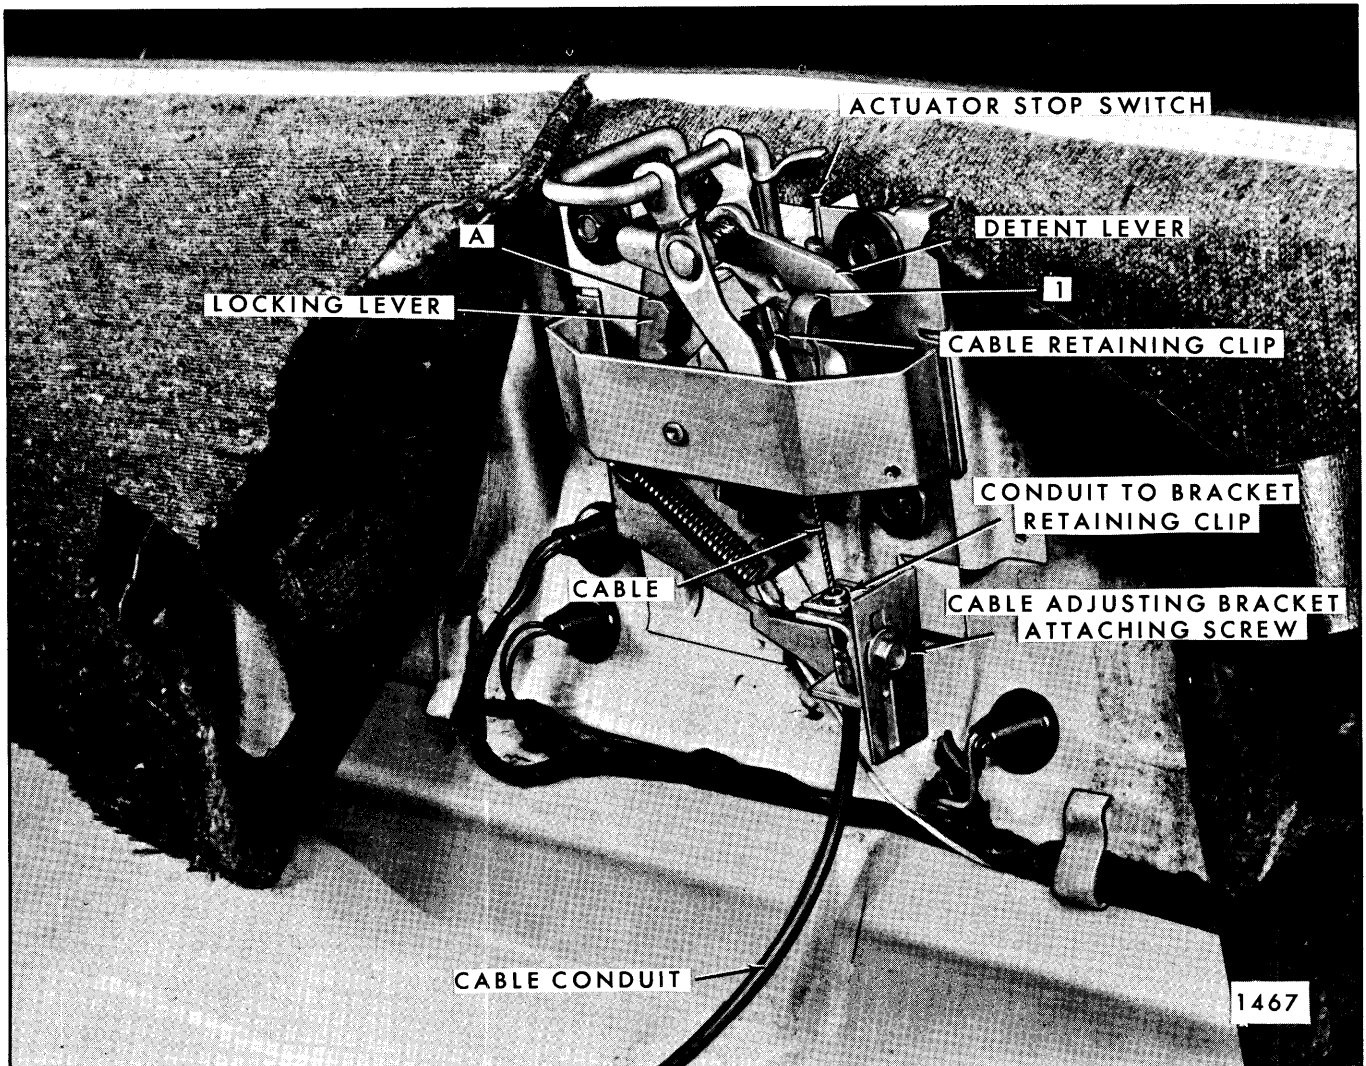
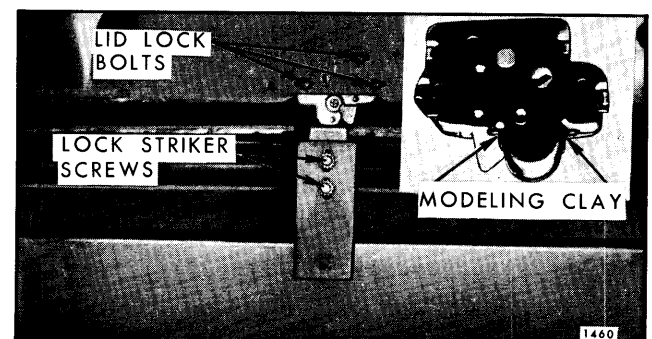
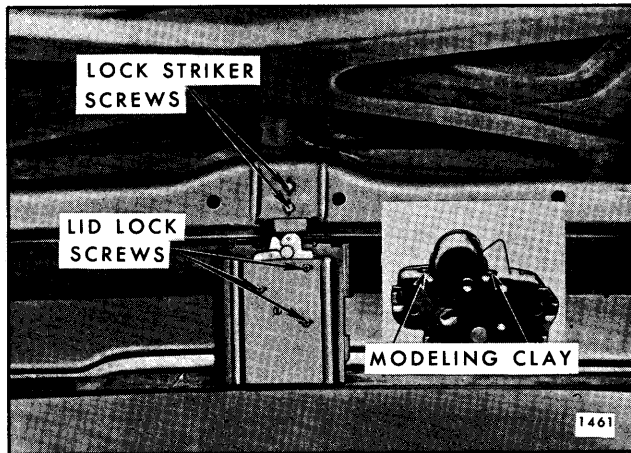

Fig. 8-16—Rear Compartment Mechanical Pull-Down Unit - Cadillac Styles with Option
Fig. 8-21—Rear Compartment Lid Lock Assembly - Mounted in Rear Compartment Lid
Fig. 8-22—Rear Compartment Lid Lock Assembly - Mounted in Rear End Panel
1. Open rear compartment lid. Remove mechanical pull-down unit cover panel. Depress striker slightly to relieve tension from cable and disengage clip securing cable to pull-down control arm (Fig. 8-16).
2. Disengage clip securing cable conduit to cable adjusting bracket and disengage cable and cable conduit from pull-down unit (Fig. 8-16).
2. Repeat this procedure at other end of cable, disengaging clips securing cable to pull-down unit and cable conduit to adjusting bracket (Fig. 8-16), and remove cable from body.
To increase cable tension, position hydraulic cylinder end of cable in the upper slot on the lower end of the cylinder ("1" in Fig. 8-21). If more tension, or finer adjustment, is required, loosen cable adjusting bracket attaching screw (Fig. 8-16). Adjust bracket downward (to increase cable travel) and tighten attaching screw.
IMPORTANT: The lack of lubrication between the toggle and the detent lever ("1", Fig. 8-16) can greatly increase the effort required to trip (unlock) the pull-down unit. Therefore, make certain point of contact between these two levers is lubricated with 630 AAW Lubriplate or its equivalent.
3. Remove rear compartment lid lock attaching bolts and remove lock from lid (Figs. 8-21 and 8-22).
2. Remove striker attaching screws and remove striker (Fig. 8-21 and Fig. 8-22).
1. Insert a small quantity of modeling clay on frame of lock at both sides of the lock bolt (Figs. 8-21, and 8-22). Close lid with moderate force.